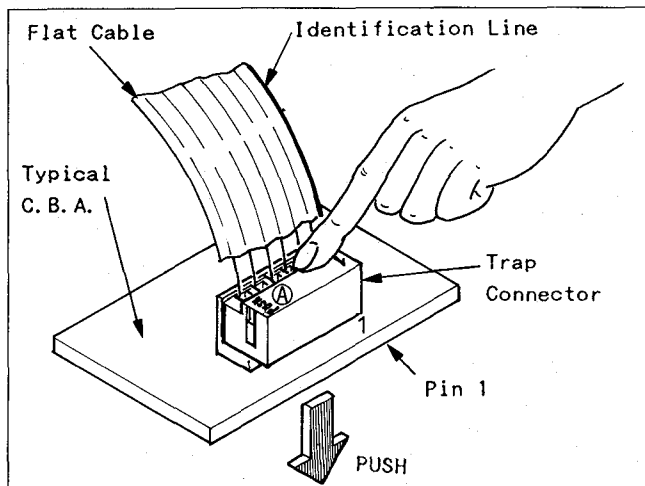

Fig. 4-1
- 1) Pull Flat Cable out while pushing against the (A) portion of the Trap Connector in the direction indicated by arrow to unplug as shown in Fig. 4-1.
1. Adjust the position of the Flat Cable so that the Identification Line on the Flat Cable aligns with Pin 1 of the Trap Connector in Fig. 4-1, 4-2 and 4-3.